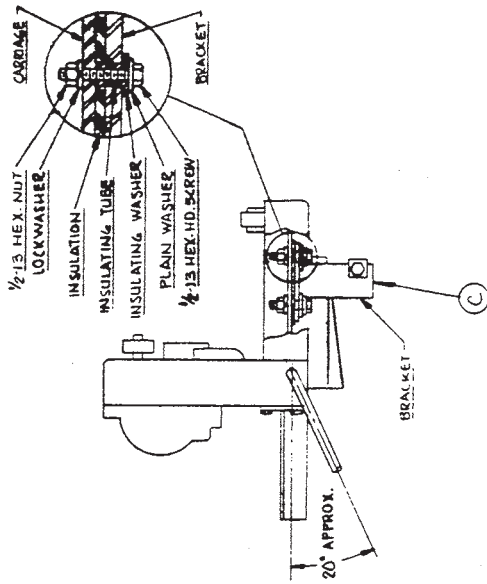

FIG. 3
- C. Install the head mounting bracket (C), which is supplied with the wire feeder, to the head lift plate per Fig. 3 using the hardware and insulation supplied. The head mount is to be electrically isolated from the carriage frame.